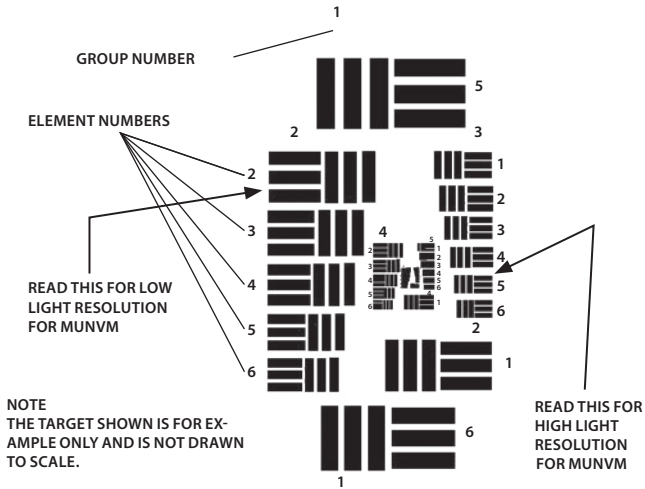

Figure 3-2. TS-4348/UV Test Set Pattern
- (1) Set the HIGH/ LOW switch on the test set to LOW.
- (2) Turn off the room light and let your eyes adjust to the dark.
- (3) Turn on the test set by setting the "II/ OFF/ III" switch to "III."
- (4) Turn on the monocular and insert it into the test port on the test set.
- (5) Look through the monocular and view the projected pattern (see Figure 3-2). If necessary, focus the eyepiece lens and then the objective lens to obtain the sharpest image.
- (6) To pass the test, the PVS-14 monocular must be able to resolve Group 2, Element 2, under low light conditions. If the PVS-14 does not pass the test, please contact Customer Support, as you will need to return the device for repair. The operator must document resolution failures on the maintenance record.
- (7) Flip the HIGH/ LOW switch to HIGH.
- (8) Look through the monocular and view the projected pattern (see Figure 3-2). If necessary, refocus the objective lens and then the eyepiece lens to obtain the sharpest image.
- (9) To pass the test, the PVS-14 must be able to resolve Group 3, Element 5, under high light conditions. If the monocular does not pass the test, please contact Customer Support, as you will need to return the device for repair.